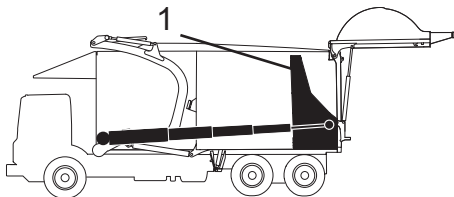

Figure 11
4. Extend the pack/eject to the rear (Figure 11, Item 1) of the body to eject the load.